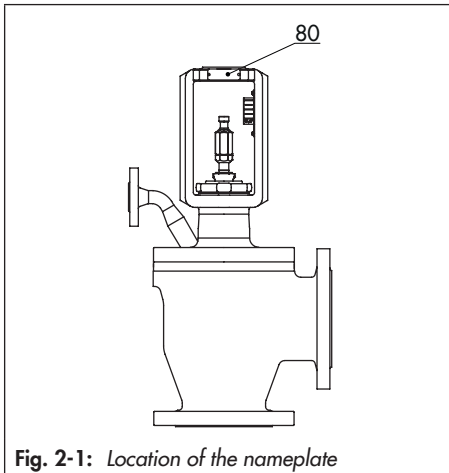

Fig. 2-1: Location of the nameplate
The nameplate (80) is affixed to the yoke of the valve (see Fig. 2-1).